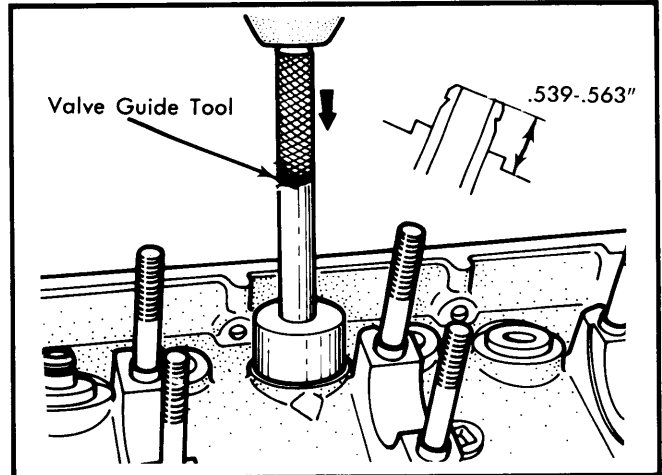

Fig. 4 Valve Guide Installation and Height
3) To install new guides, reheat head to same temperature as for removal. Quickly insert and drive guides into head. See Fig. 4. Guides should protrude .539-.563" above head surface when properly installed. Check guide I.D. and ream as necessary.